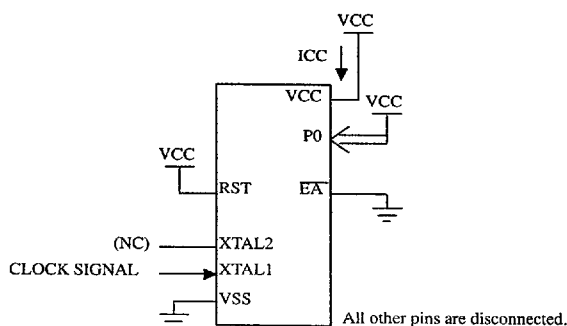
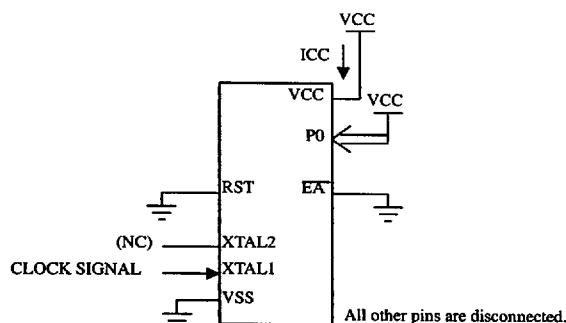

Figure 19. ICC Test Condition, Active Mode.
Figure 20. ICC Test Condition, Idle Mode.
1. ICC is measured with all output pins disconnected; XTAL1 driven with TCLCH, TCHCL = 5 ns (see Figure 20.), V_{IL} = V_{SS} + 0.5V, V_{IH} = V_{CC} - 0.5V; XTAL2 N.C.; EA = RST = Port 0 = V_{CC}. ICC would be slightly higher if a crystal oscillator used (see Figure 19.).
2. Idle ICC is measured with all output pins disconnected; XTAL1 driven with TCLCH, TCHCL = 5ns, V_{IL} = V_{SS} + 0.5V, V_{IH} = V_{CC} - 0.5V; XTAL2 N.C.; Port 0 = V_{CC}; EA = RST = V_{SS} (see Figure 20.).